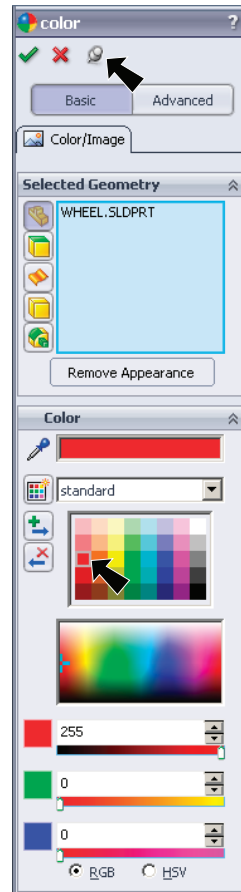

Fig. 24
Step 2. In the Appearances Property Manager, Fig. 24
click **Keep Visible**  and OK , Fig. 24. The Push Pin  on allows selection of another appearance.